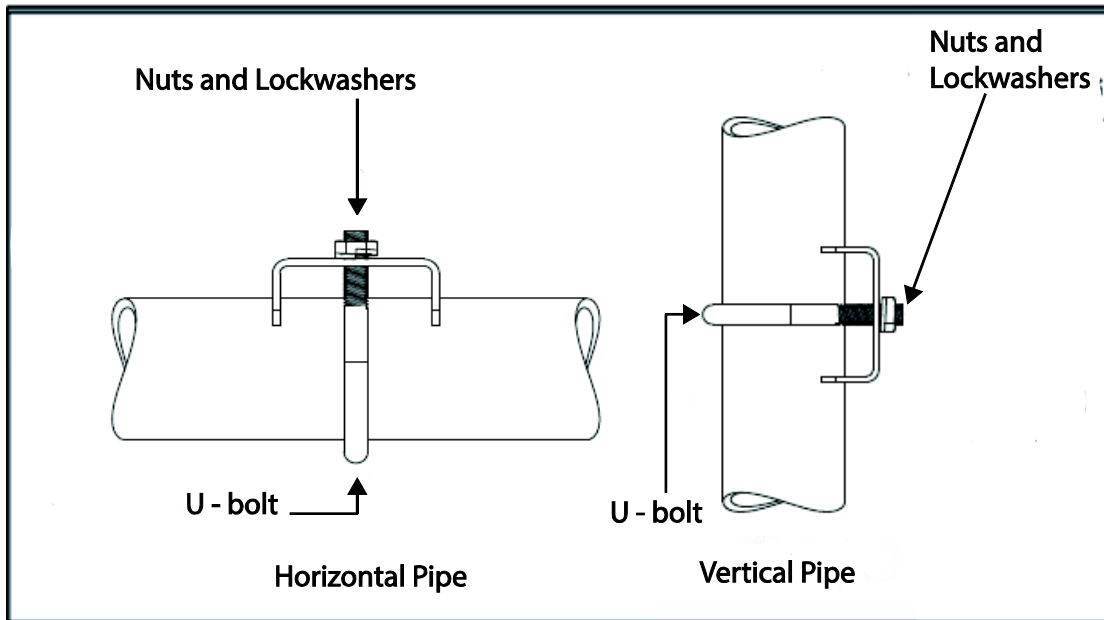

Figure 5 – Pipe Mounting Bracket Secured to a Horizontal or Vertical Pipe
1. Align the two mounting holes in the transmitter with the two slots in the mounting bracket and assemble the (2) M8 hex cap screws, (2) lockwashers and (2) flat washers provided. Rotate transmitter assembly to the desired position and torque the M8 hex cap screws to 27,0 Nm/20,0 Lb-ft maximum.
2. Pipe Mount Option: Refer to Figure 5. Position the bracket on a 2-inch (50.8 mm) horizontal or vertical pipe, and install a “U” bolt around the pipe and through the holes in the bracket. Secure the bracket with the nuts, flat washers and lock washers provided.